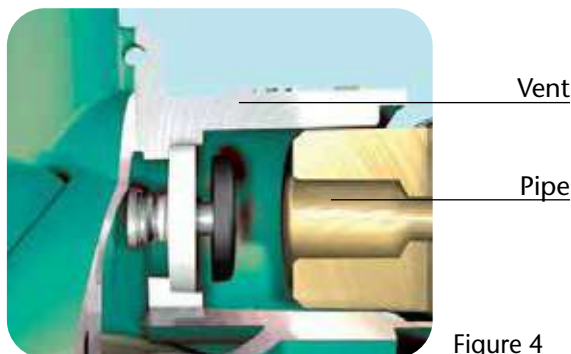

Figure 4
- Mounting the discharge pipe (male NPT thread) cannot interfere with normal functioning of the opening valve. See figure 4.